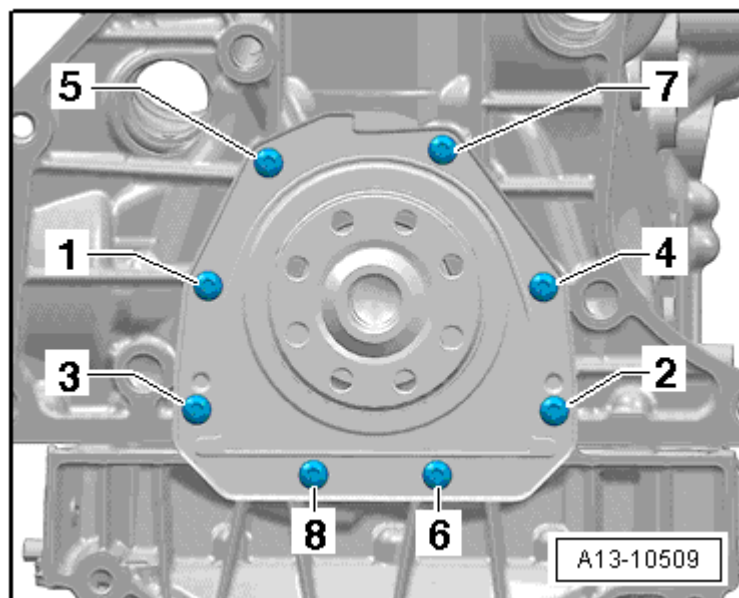

Fig. 10: Identifying Sealing Flange Tightening Sequence
- Tightening sequence, refer to **Fig. 10.**